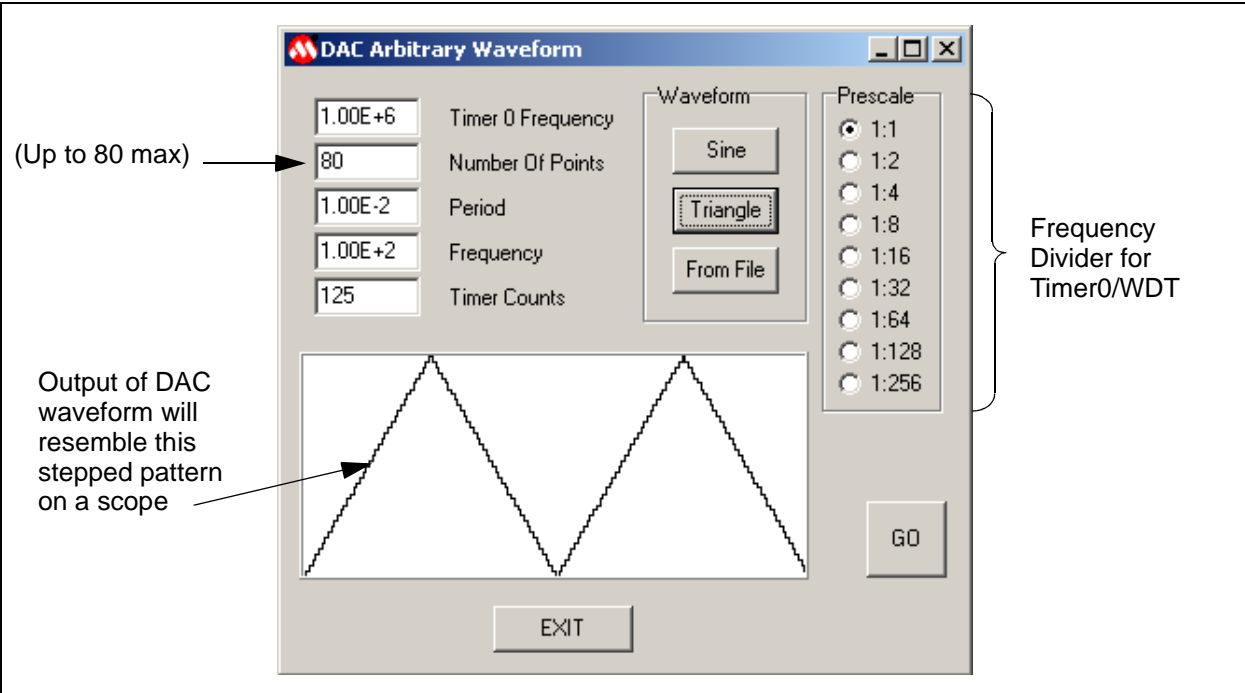

Figure 2.11: Triangle Waveform Example
2. A triangle wave (see Figure 2.11)